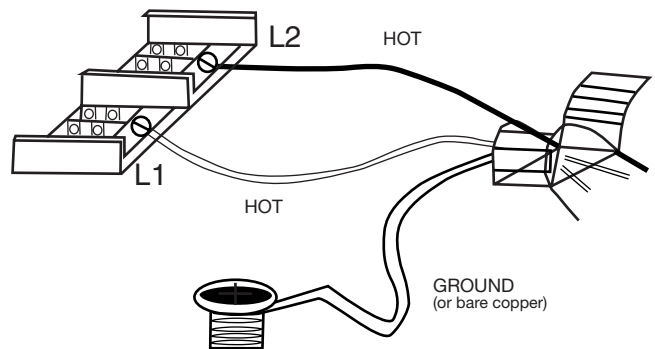

Figure 7
Remove screws from the panel to access power block, See **Figure 7**.
3. Pull enough wire into the heater and connect to wire to the Power Block located in the electrical area of the heater See **Figure 7**.